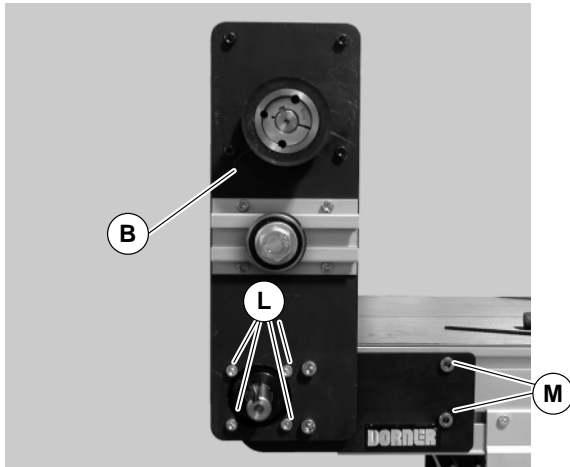

Figure 4
- Attach top mount drive assembly (B of Figure 4) with two (2) M8 screws (M) and four (4) M6 screws (L). Tighten M6 screws (L) to 146 in-lbs (16.5 N-m) and M8 screws (M) to 288 in-lbs (32.5 N-m).